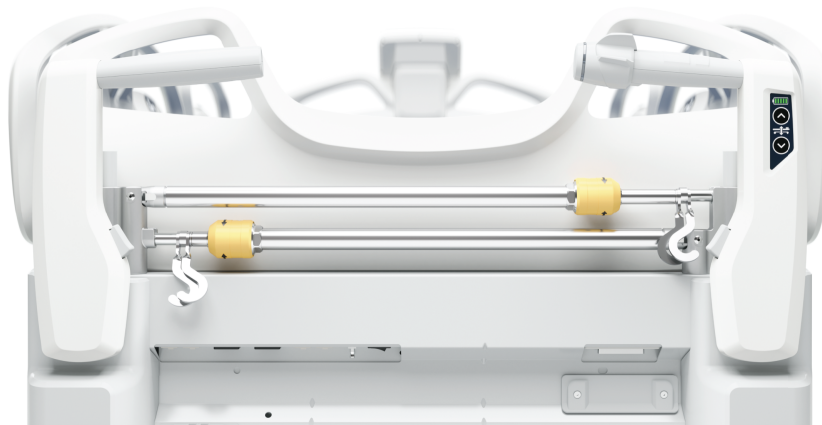

Figure 12 – Zoom handles
10. Grasp and hold both handles (Figure 12).